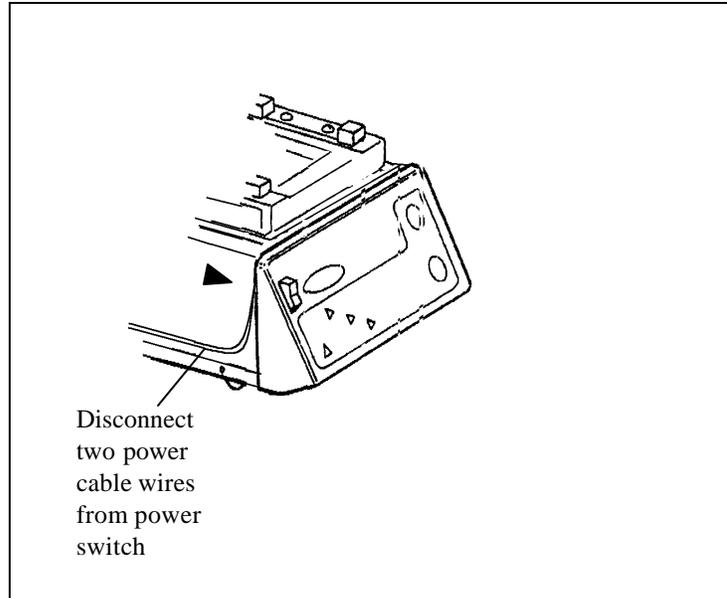

Figure 4- 3 Removing the On/Off switch
- Carefully, pull the two power cable terminals from the spade terminals on the switch. (Figure 4- 3)